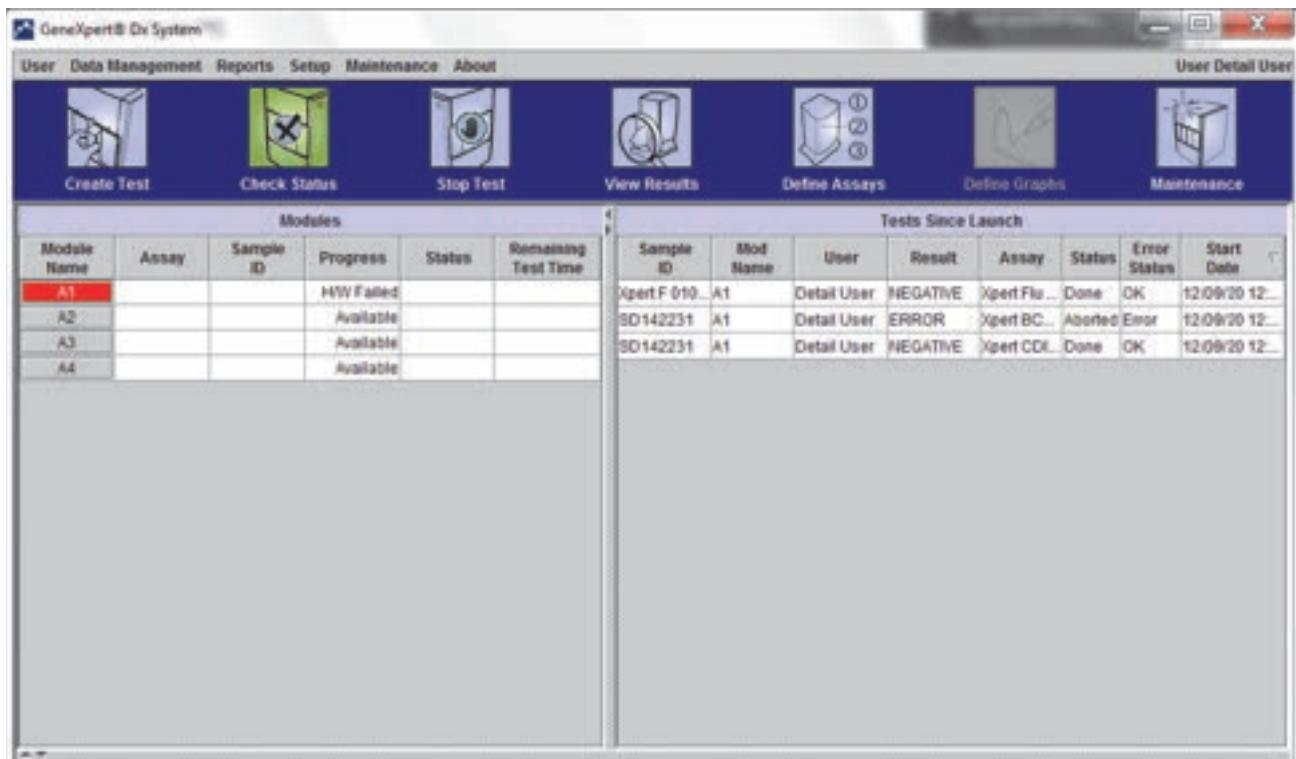
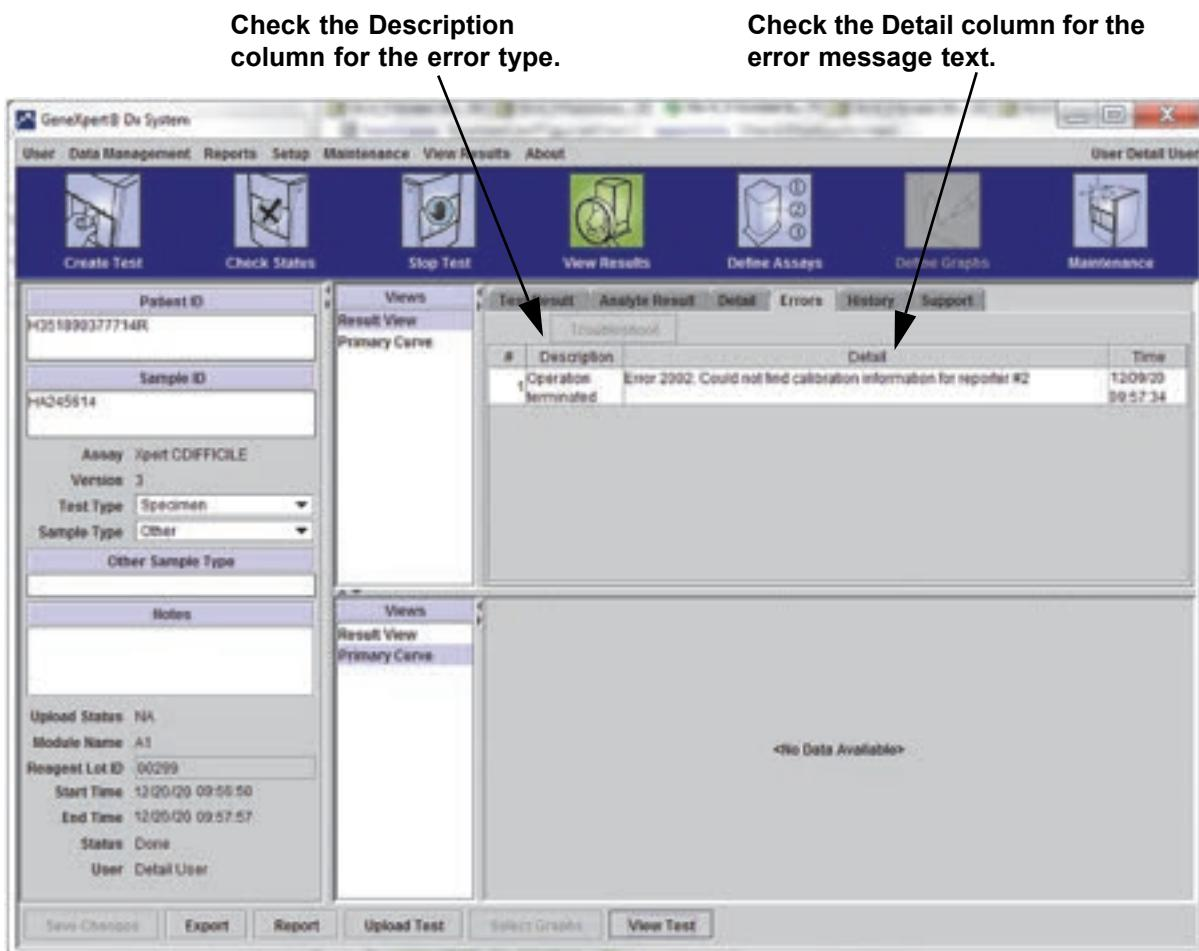

Figure 9-40. GeneXpert Dx System—Check Status Window
Figure 9-41. GeneXpert Dx System—View Results Window—Errors Tab
- **Section 9.19.2.5, Post-Run Analysis Errors**—Errors that occur during the data reduction process. You can view all of the errors in the Check Status window (see Figure 9-40). Details for test-specific errors are also shown on the **Errors** tab of the View Results window (see Figure 9-41).
Table 9-3 lists errors that might appear during a test that is not aborted. Although the system was able to finish the test and save the results, some non-critical errors occurred and require attention. These error messages appear in the View Results window (see Figure 9-41). To contact Cepheid Technical Support, see the Technical Assistance section in the Preface for the contact information.
Table 9-4 lists errors that might appear when a test is aborted. The operation-terminated error messages appear in the View Results window. See Figure 9-41. To contact Cepheid Technical Support, see the Technical Assistance section in the Preface for the contact information.
Table 9-5 lists errors that might appear during a cartridge loading process. The cartridge-loading error messages appear in the Check Status window. See Figure 9-40.
Table 9-6 lists errors that might appear during the self-test process. The self-test error messages appear in the Check Status window. See Figure 9-40. To contact Cepheid Technical Support, see the Technical Assistance section in the Preface for the contact information.
Table 9-7 lists errors that might appear during the post-run analysis (data reduction) process. The post-run analysis error messages appear in the View Results window (see Figure 9-41). To contact Cepheid Technical Support, see the Technical Assistance section in the Preface for the contact information.